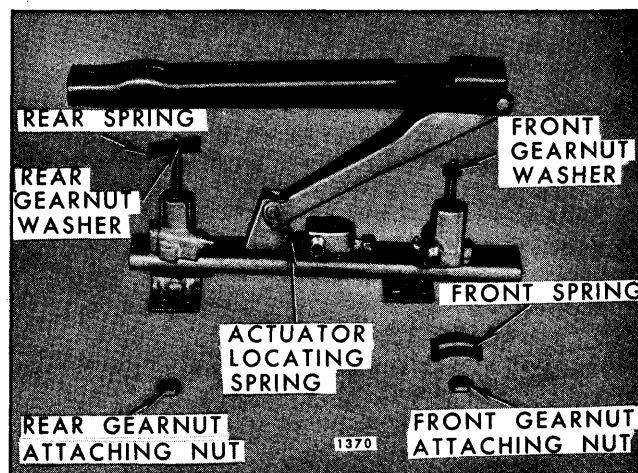

Fig. 10-18—Six-Way Seat Adjuster - "B & C" Styles
4. At top of adjuster, remove front and rear vertical gearnut attaching nuts (Fig. 10-18).
5. Remove front vertical gearnut spring (Fig. 10-18).
6. Lift upward on adjuster upper track; then remove rear vertical gearnut spring (Fig. 10-18).
IMPORTANT: Horizontal actuator is under tension from spring shown in Figure 10-18. When installing actuator, be sure actuator locating spring is properly engaged with actuator assembly.
- Remove front vertical gearnut spring (Fig. 10-18).
- If front vertical gearnut is being replaced with a new part, transfer gearnut washer to new gearnut assembly (Fig. 10-18).
- At top of adjuster, remove rear vertical gearnut attaching nut (Fig. 10-18).
- Lift rear of channel upward and remove rear vertical gearnut spring (Fig. 10-18).
- If rear vertical gearnut is being replaced with a new part, transfer gearnut washer to new gearnut assembly (Fig. 10-18).